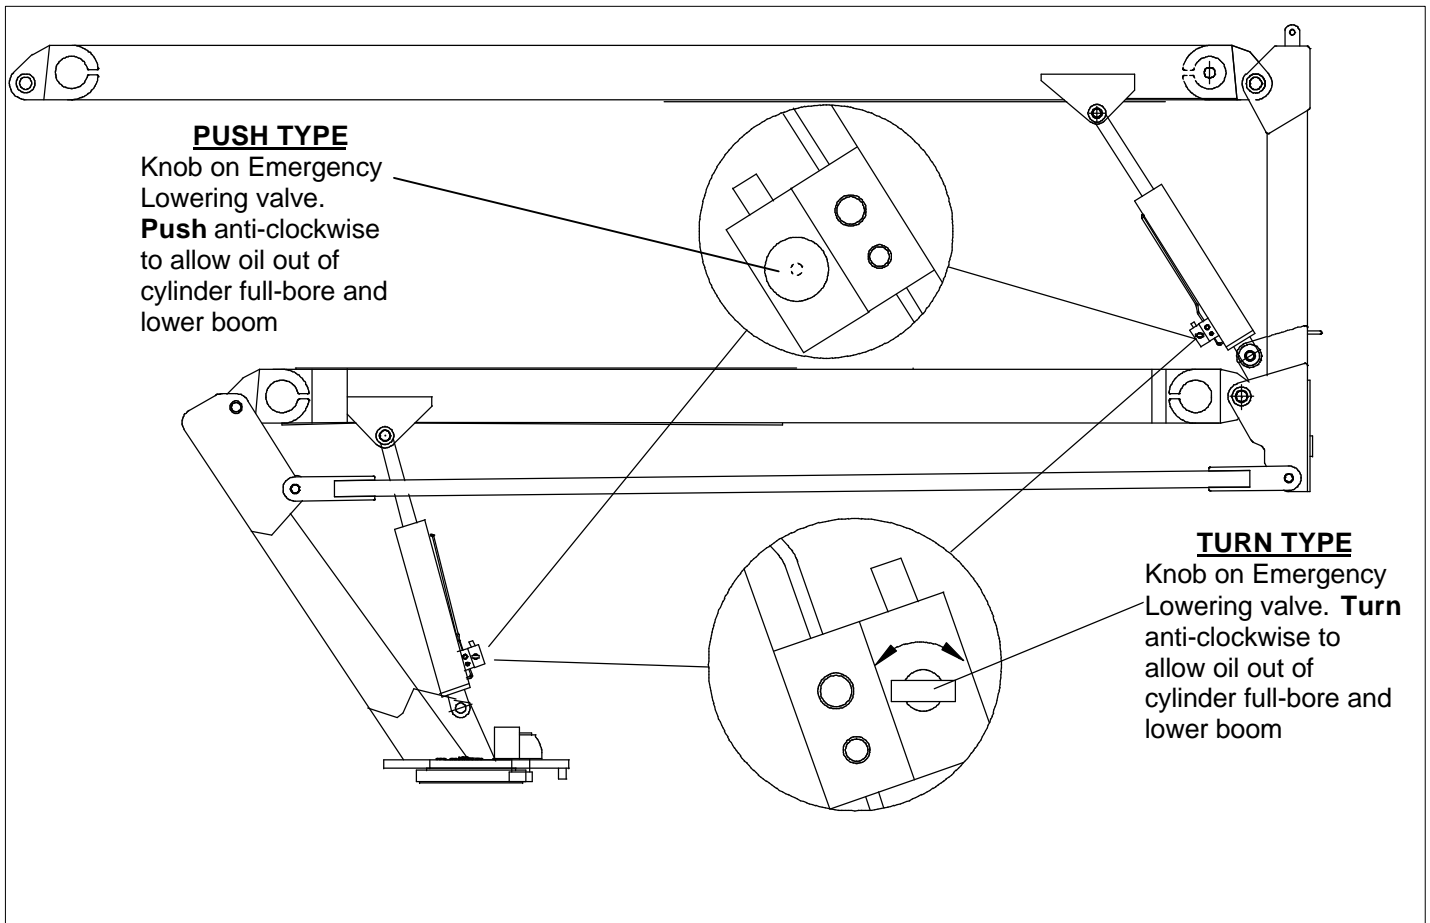

Figure 3-4: Emergency Lowering Valves
2. These are red knobs (twist or push type) mounted at the base of the hydraulic lift cylinders (See Figure 3-4). Operate the lower boom first by turning slightly in an pushed) - ensure rate of descent is kept slow and under control.